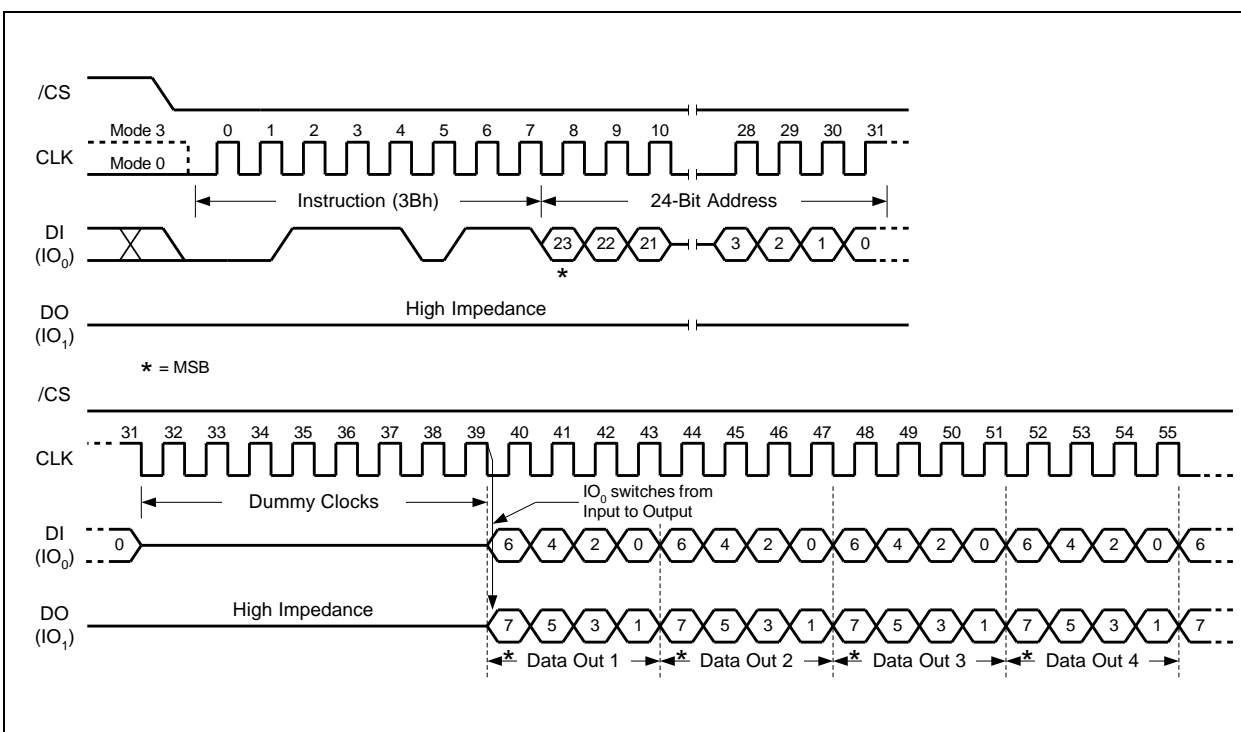

Figure 18. Fast Read Dual Output Instruction
- 8.2.8 Similar to the Fast Read instruction, the Fast Read Dual Output instruction can operate at the highest possible frequency of FR (see AC Electrical Characteristics). This is accomplished by adding eight “dummy” clocks after the 24-bit address as shown in Figure 18. The dummy clocks allow the device's internal circuits additional time for setting up the initial address. The input data during the dummy clocks is “don't care”. However, the IO₀ pin should be high-impedance prior to the falling edge of the first data out clock.